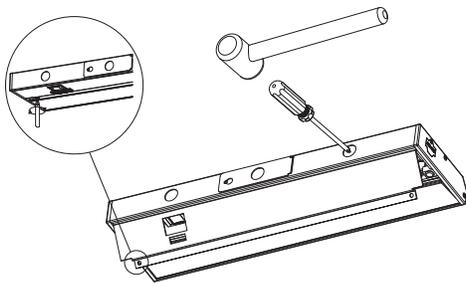

Figure 8
2. Punch out whichever knockout is best suited for connection to 120V supply wires. Knockouts are located along back and top of housing (Fig. 8).